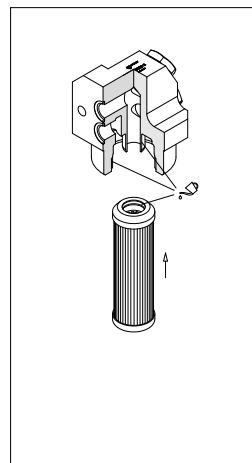

fig. 14
- (Fig. 14) Lubricate with the operating fluid the filter element O-ring, the housing tap and cavity, then fit the filter element on the tap. Pay attention not to damage the O-ring seal